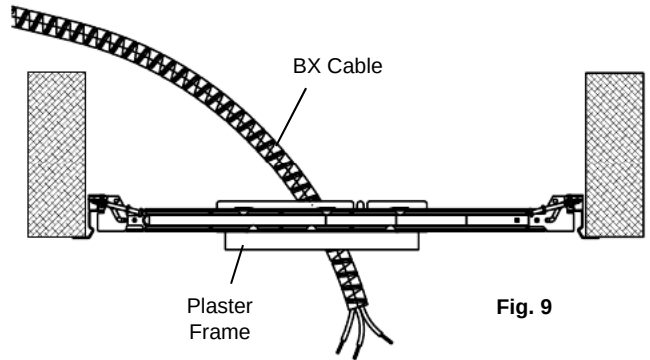

Fig. 9
- Run armored cable (BX) or non-metallic (NM) cable (also known as Romex) from your circuit breaker or fuse panel to the plaster frame hole, providing 6" (15,2 cm) to 8" (20,3 cm) of slack extending below the hole. Cable having up to 12 AWG wiring may be used. (Fig. 9) (**WARNING - Use cables having wires rated 90°C or more.**)